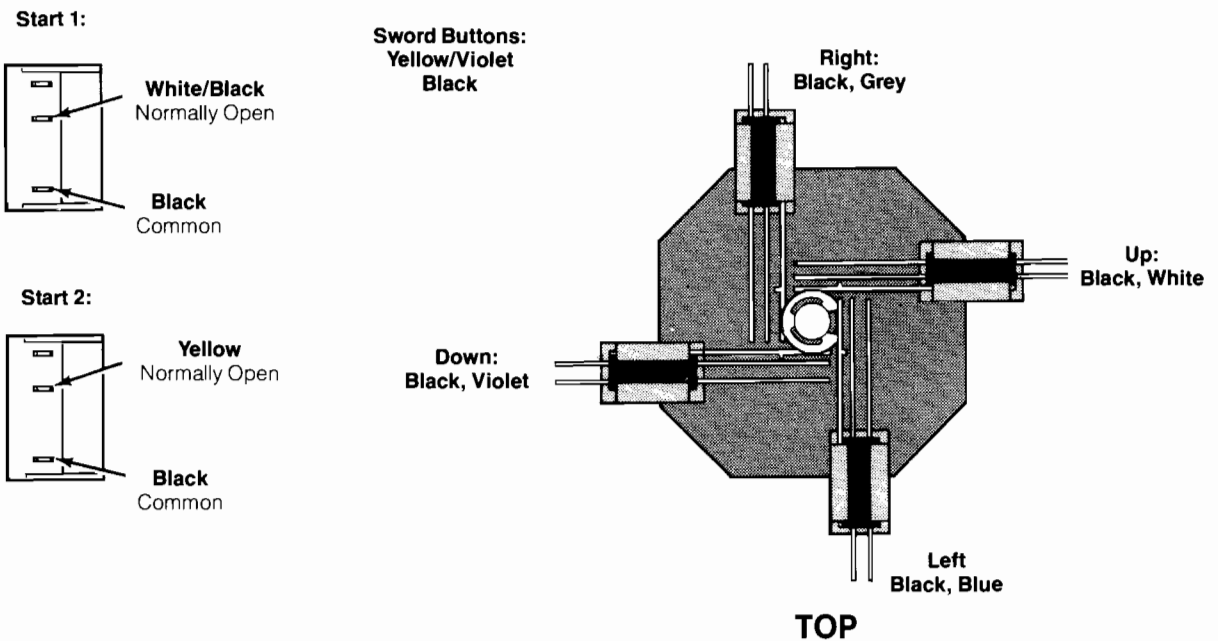

Figure 3-2 Wire Colors
5. Reinstall the pushbutton switch. Reconnect the harness wires to the switch terminals (see Figure 3-2).
Start switches can be checked for proper operation with an ohmmeter. Disconnect the wires from the switch terminals and connect an ohmmeter between the normally open and common contacts (see Figure 3-2). Press and release the pushbutton and check for zero and infinite resistance. If the switch is not operating properly, perform the following procedure.
4. Reconnect the harness wires as shown in Figure 3-2. Make certain the right colors go to the right tabs on the switch.
When you replace a switch or control, refer to Figure 3-2 for the proper wire connections.